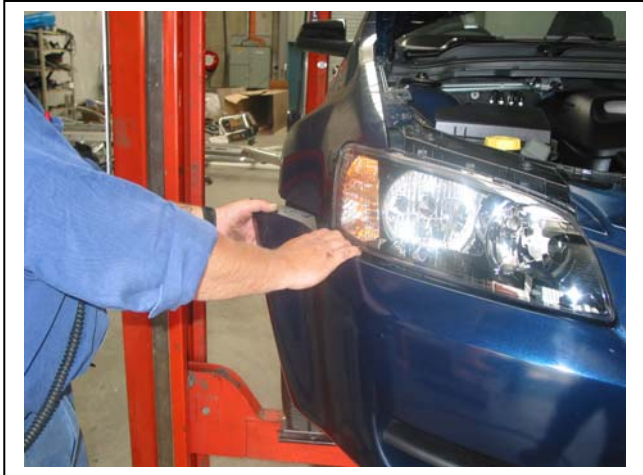

Figure 1
5. Remove bumper cover: holding side of bumper cover return outwards, under headlight firmly pull bumper cover away from clips under headlight. Repeat for other side and remove bumper cover. **See figure 1.**